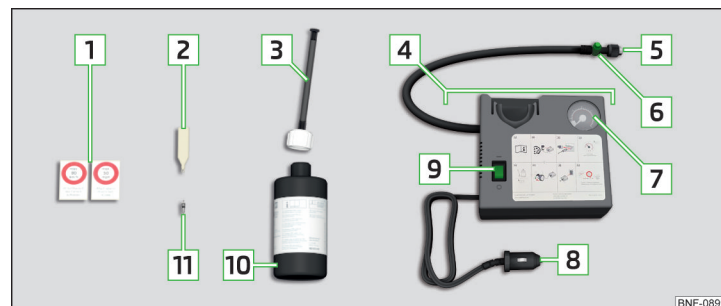

Fig. 156 Description of the breakdown kit
- › Insert the valve remover **2** » **Fig. 156 on page 127** on the valve insert, so that the valve insert fits into the slot of the valve remover.
- › Screw the air compressor tyre inflation hose **5** » **Fig. 156 on page 127** firmly onto the tyre valve.
- › Stick the sticker **1** » **Fig. 156 on page 127** on the dash panel in the driver's field of view.